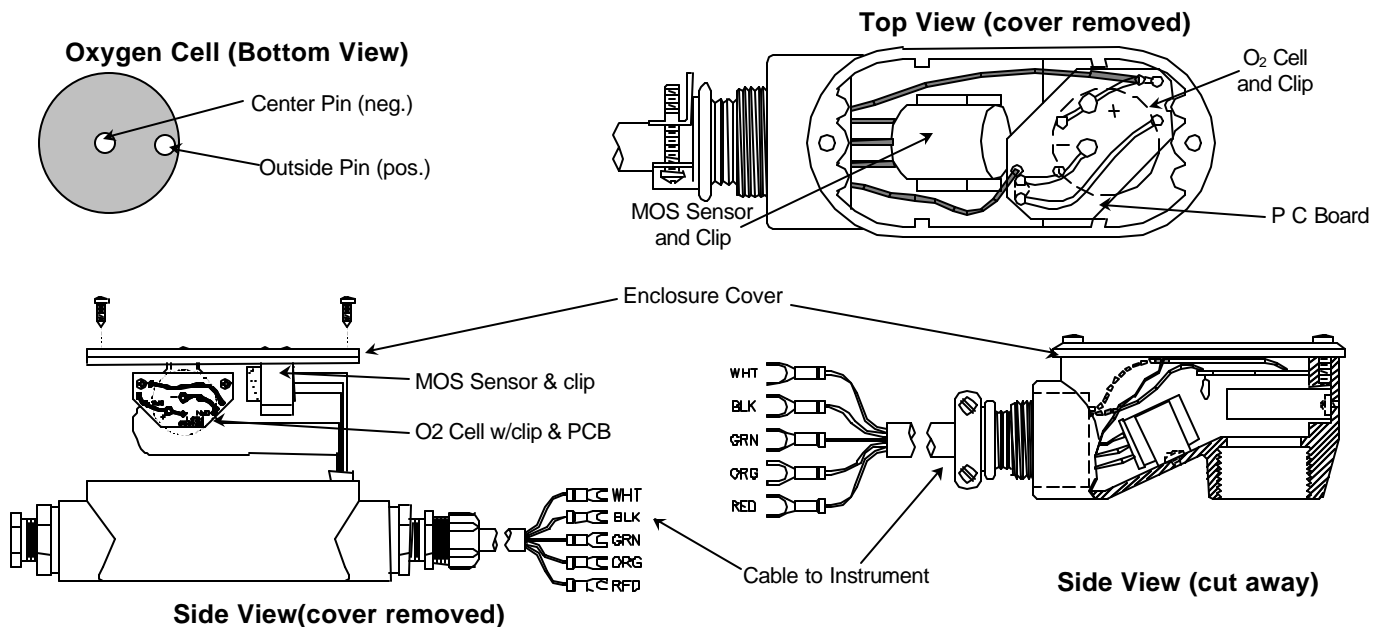

Figure 6: Housing, Oxygen Cell and MOS Sensor
The oxygen fuel cell has a six-month warranty. The average lifetime of the cell is twelve months. Replace the cell when you can no longer adjust the oxygen gain potentiometer, outside on the front panel, so that the oxygen channel meter reads 21%. An oxygen circuit that is in constant alarm is a good indication that the oxygen fuel cell is either expired or grossly contaminated. See Figure 6
5. Carefully unplug the old oxygen cell from the printed circuit board. Install the new cell (it may be necessary to clip off approximate 1/2 of the gold pins on the back of the new oxygen cell to make sure that the pins on the cell do not puncture the gasket on the sensor housing). See Figure 6. The alarm should shut off immediately after the new oxygen cell is plugged in. If it doesn't, you may have plugged in the oxygen cell backwards.